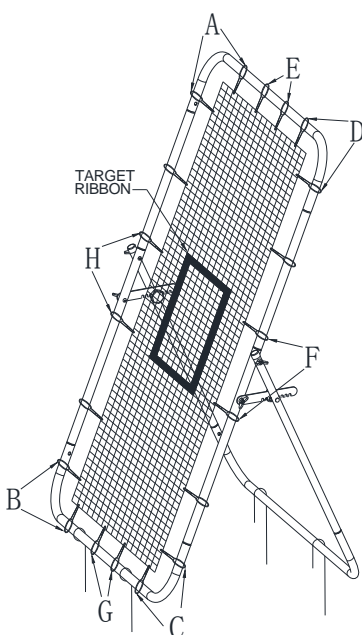

Figure 2. Frame Assembly
5) Follow letter sequences start as shown in Figure 2. Start with A by attaching the net to both top and side net loops. Skip one net square between top and side in each corner and connect the net to the loop. Repeat this procedure for other corners. Make sure that each corner of the net is attached to two net loops (as fig. A.B.C.D). Space the remaining net loops evenly along each side. Attach net to net loops E, F, G, and H closest to the center of each side. Attach the net to all remaining net loops.
7) To securely assemble the unit, place the unit in open area suitable for play. To keep the unit in position, push the 4 ground stakes into ground as shown in Figure 2.